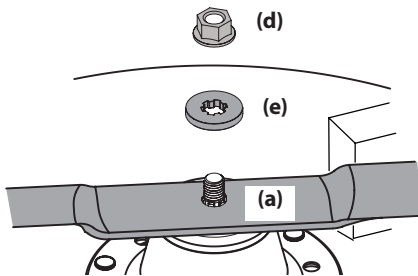

Figure 37
4. Remove the flange nut (d) and flat washer (e) at the blade (a) and remove the blade. See Figure 37.